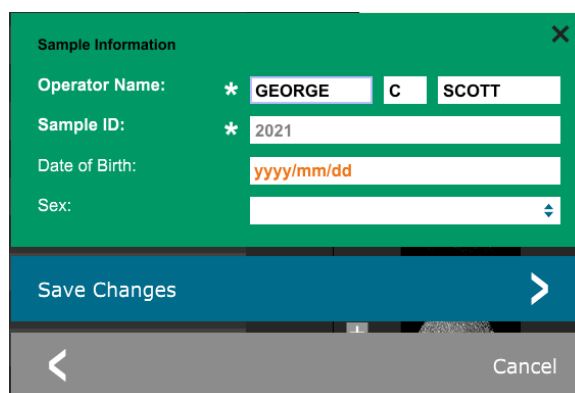

Figure 135: Sample Information Editor Dialog Box
1. Right click on the sample in the Sample List to open the on-screen menu shown in figure 135.